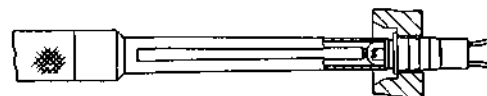

Fig. 4—Spring End of Tool Over Lamp
3.02 To remove a lamp, push the spring end over the lamp, as shown in Fig. 4, and